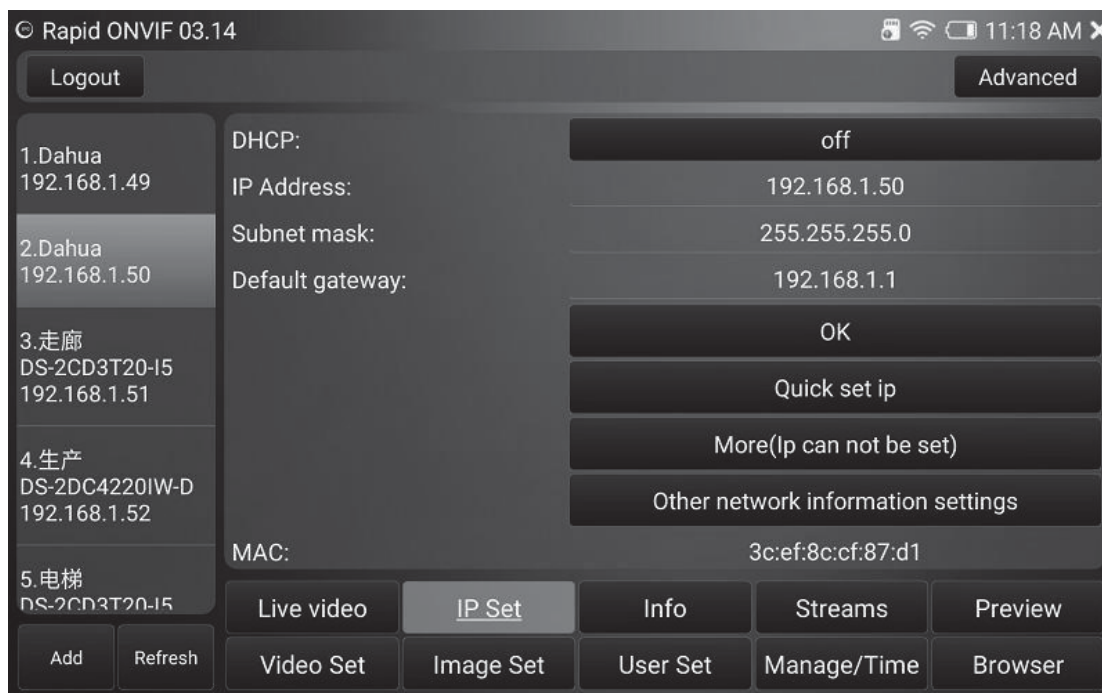

Figure 18
- 3) IP set, touch the IP Set button in the main interface to enter the camera parameter setting function, as shown in Figure 18,19